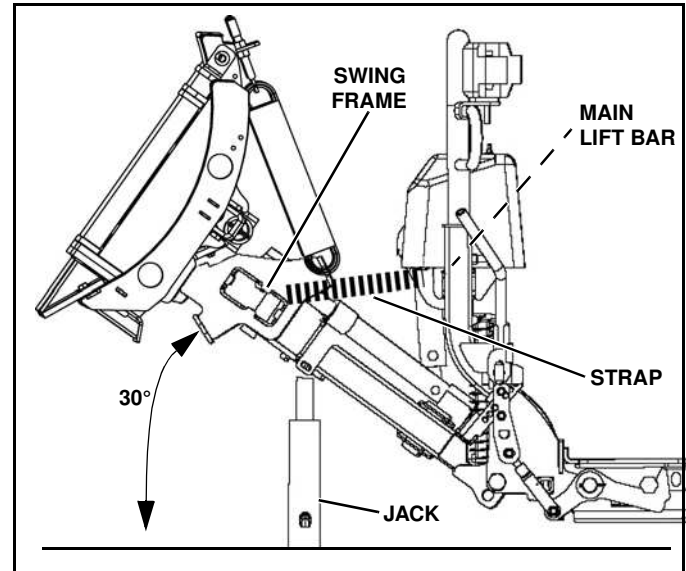

Figure 1-49
2. To lift plow, position jack under A-frame and angle up to a minimum of 30 degrees (or up to the lift stops). (See Figure 1-49).